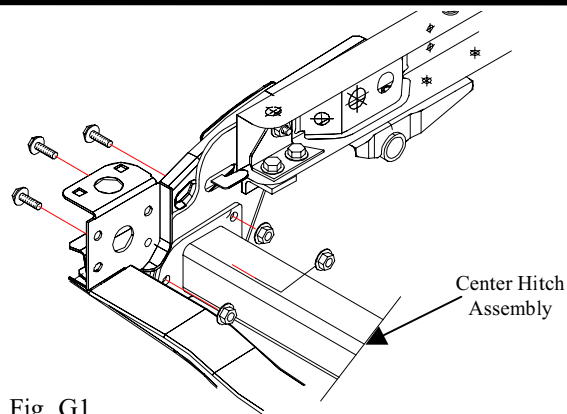

Fig. G1
- ➡ 1. Position hitch center sub-assembly between previously installed receiver hitch mounting brackets. (Fig. G1)